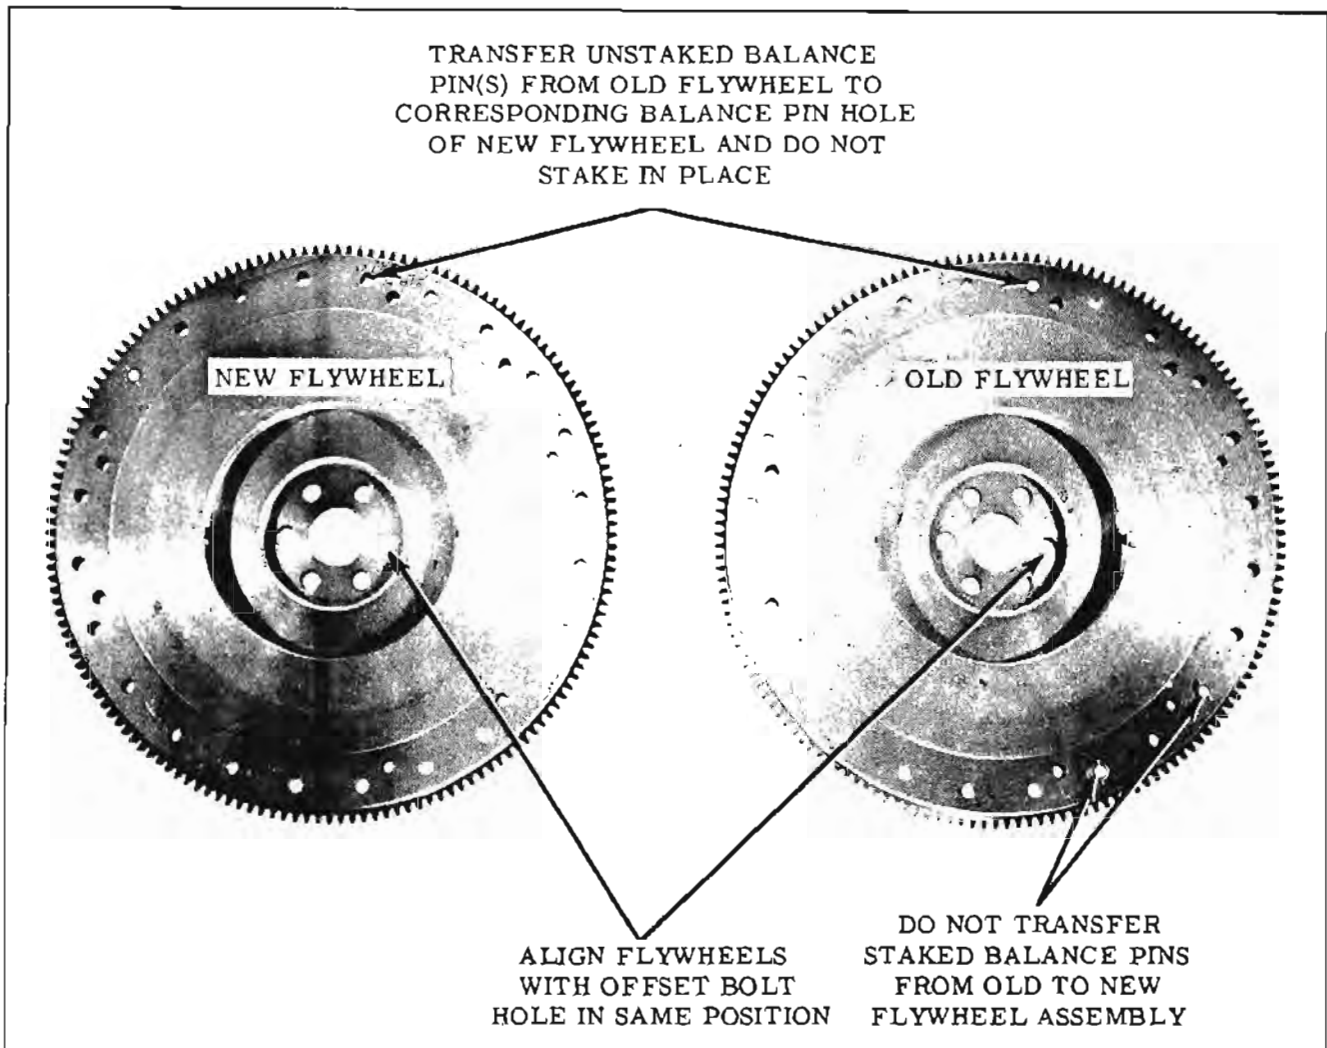

Fig. 8-154 Fly Wheel Balance Pins
3. Transfer the balancing pins from the original flywheel to the new flywheel in the holes marked. (Fig. 8-154)